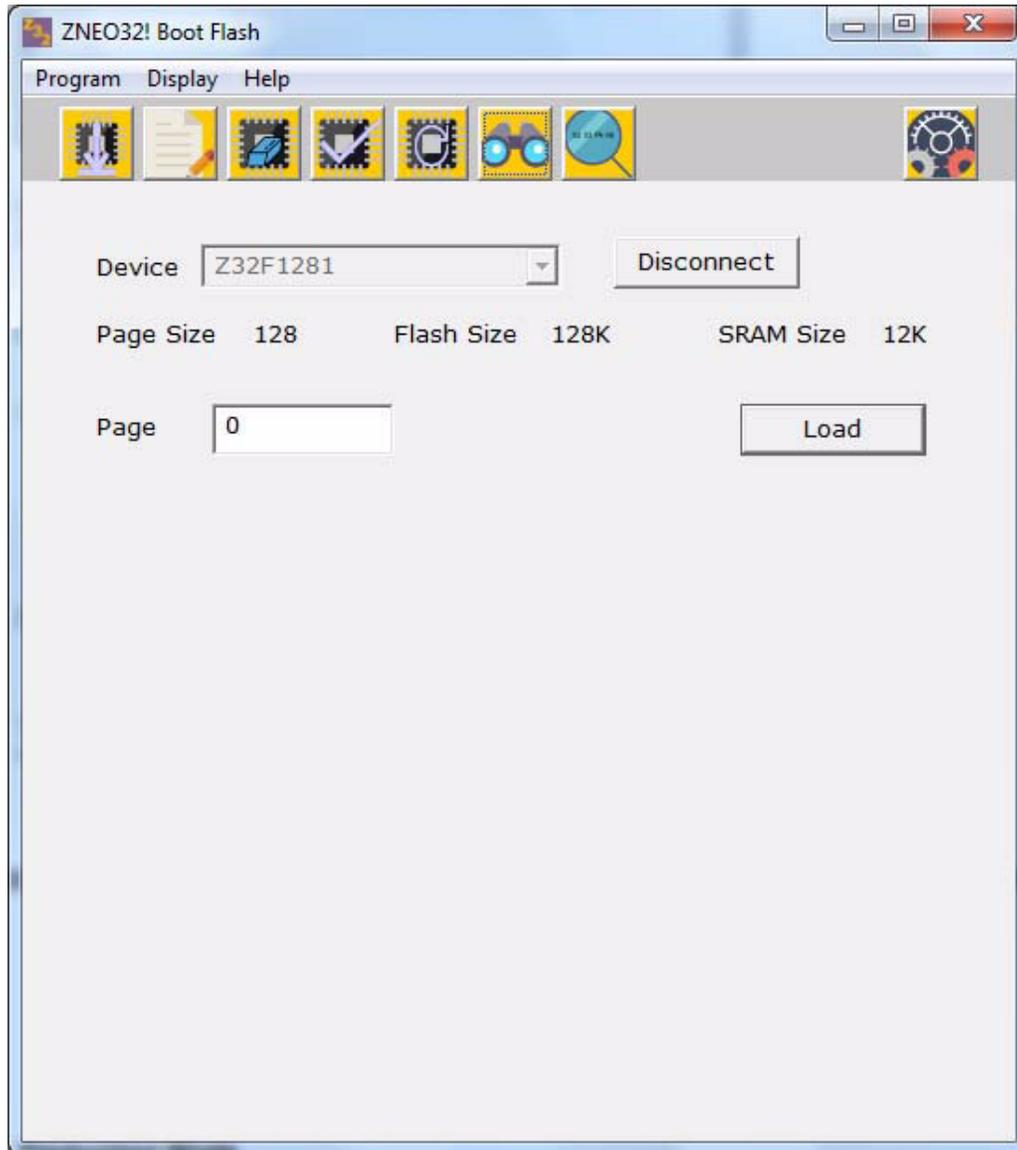

Figure 26. Display Page
1. On the screen shown in Figure 26, enter the page number (page numbering starts with 0) and click **Load**.